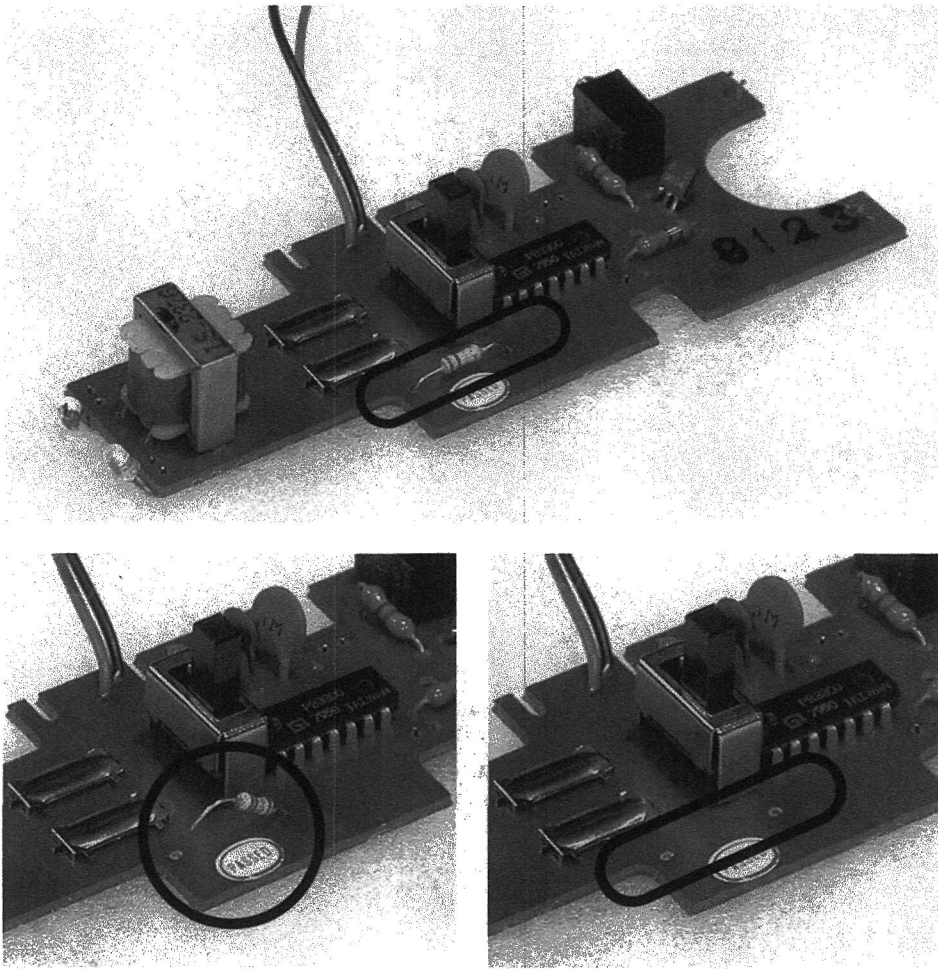

Figure 13.1 Removing a resistor.
1. Locate the clock resistor you identified in the previous experiment. Wedge a small flat-bladed screwdriver under it. Melt the solder on the underside of the circuit board at one end of the resistor, and lever the screwdriver to lift that end free from the solder connection (see Figure 13.1). Do this quickly but gently, so as not to damage the circuit board or components. Now grip the resistor with a pair of pliers and pull it free of the board as you melt the other solder joint. Put it somewhere safe and don't lose it! If the circuit already has some kind of pitch-control potentiometer ("pot"), de-solder and remove it entirely.